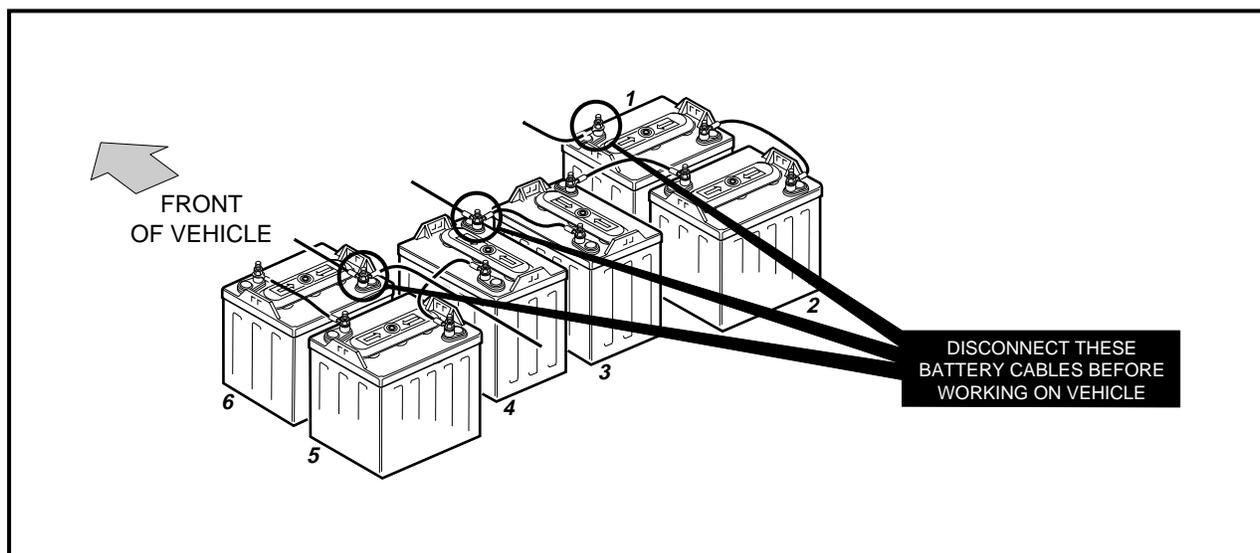

Figure 15-1 V-Glide 36-Volt Battery Configuration
- TO AVOID UNINTENTIONALLY STARTING THE VEHICLE, DISCONNECT BATTERIES AS SHOWN IN **FIGURE 15-1, PAGE 15-1.**
1. Disconnect the battery cables, negative cable first (**Figure 15-1, Page 15-1**).